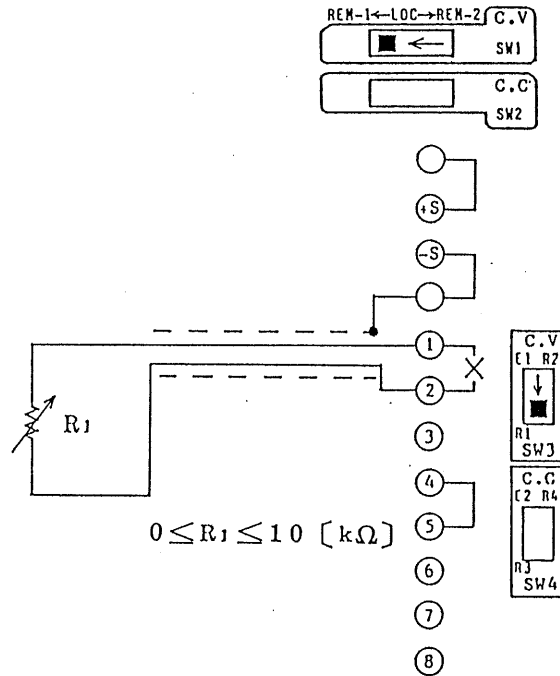

Figure 4-5
- (8) Regarding the switches for which no settings are specified in Figure 4-5, set them to the standard states as shown in Figure 2-25 (See Section 2.4.) or to appropriate states for respective modes (See Sections 4.1 through 4.11.).